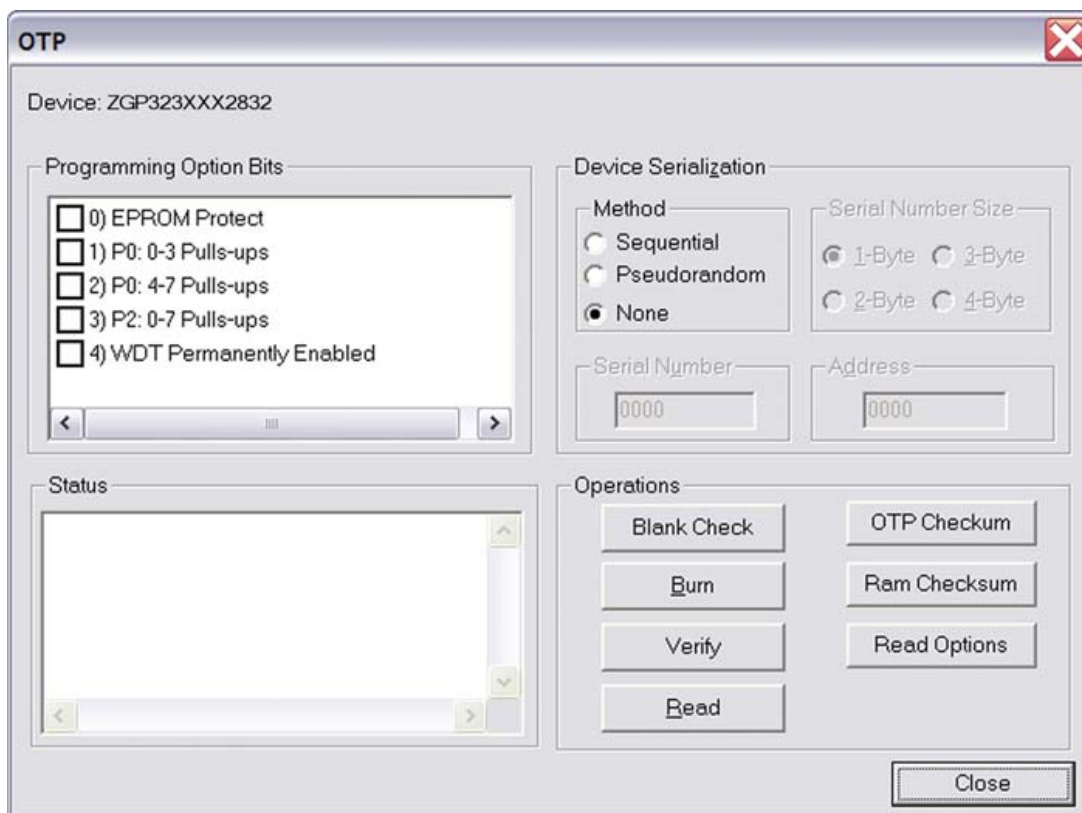

Figure 11. OTP Programming Window (Current ZDS II Project Example)
7. Select Tools → OTP Programming to open the OTP window (Figure 11).